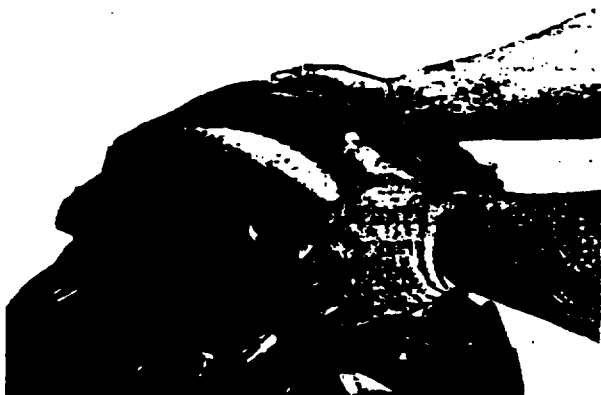

Figure 8-23. Removing Caliper
4. Lift the caliper off the hub and rotor. See Figure 8-23.